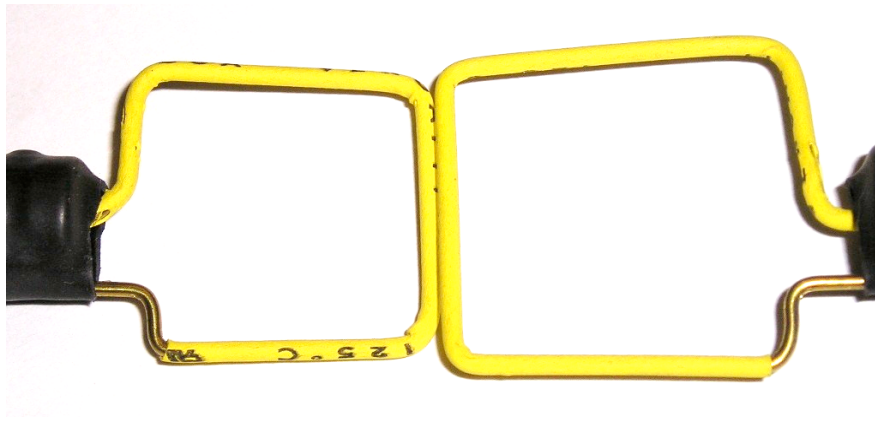
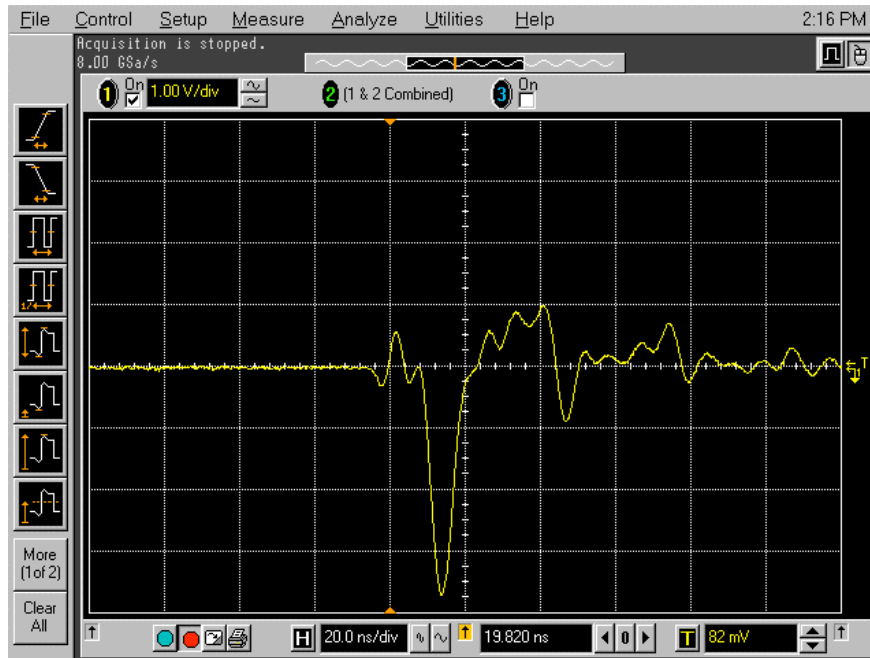

Figure 10, Measuring loop induction into a second loop
Figure 11, Induced voltage in second loop using an EFT generator to feed the first loop.
One should be able to easily measure this result directly. A way to do this is shown in Figure 10. Two square loops are held adjacent with one connected to an EFT pulse generator and the other to the 50Ω input of an oscilloscope (both using good quality 50Ω coax cable). The result can be seen in Figure 11 showing a peak voltage of about 4 Volts for a 250 Volt open circuit EFT generator setting.
Figure 11 looks very much like the  $di/dt$  pulse in Figure 9, although reversed in polarity because of the relative loop orientations. The single polarity induced voltage pulse is important to the troubleshooting method to be described.
1. Using two loops, as in Figure 10, set the pulse generator to give an induced voltage of around 4 Volts peak. This will require a setting of the TG-EFT generator of around 100 Volts and a setting of about 250 Volts on an EFT generator.